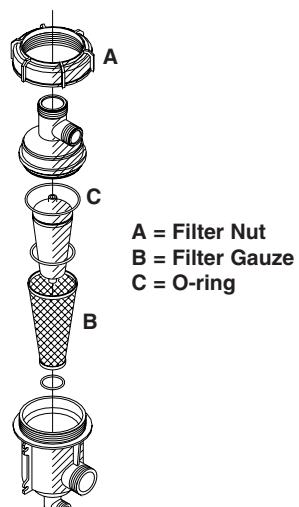

Fig 17
- 1 Unscrew the filter nut (**A** Fig 17) and open the filter.
- 2 Check the filter gauze (**B** Fig 17). Clean and check there are no residues on any part of the filter hoses. For Replacement Parts, see Drg 6, Page 30.
- 3 Lubricate the O-ring (**C** Fig 17).